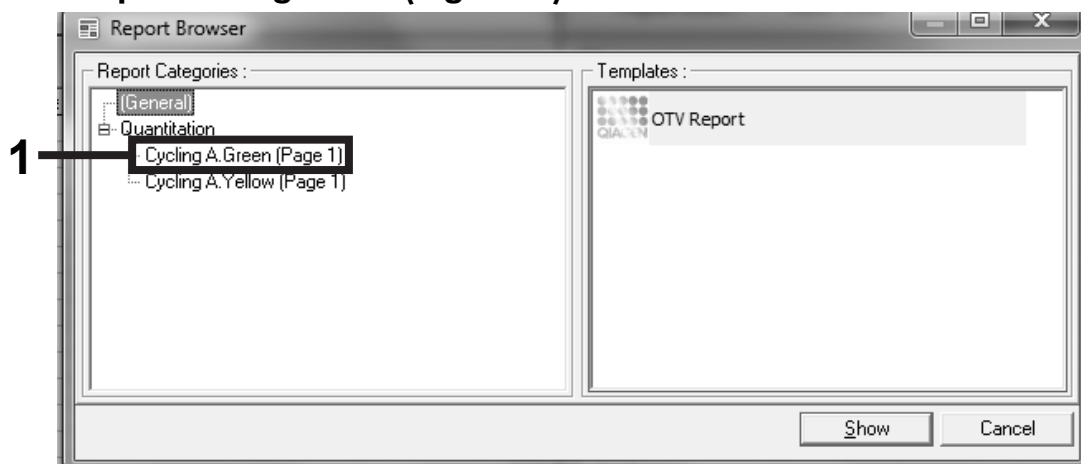

Figure 6. Report browser.
17. In the report browser, click “Cycling A Green (page 1)” under “Report Categories” (Figure 6).